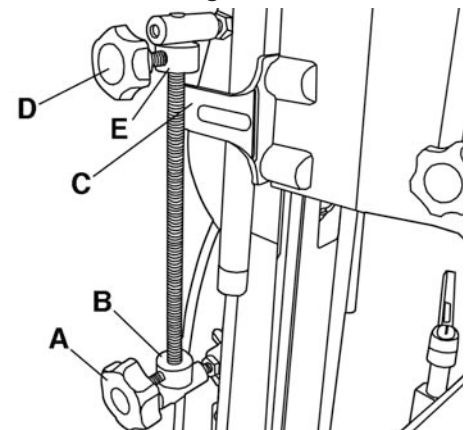

Figure 5
If you desire to set the cutting depth to a specific measurement or often to prevent drilling into the work table, a depth stop bushing (B) Fig.5 can be positioned and locked in place with lock knob (A). To set the chisel cutting depth to a specific measurement, first make sure the chisel and bit you intend on using is installed correctly in the head (see chisel & bit installation instructions). Example, if you wish to set the depth stop at 1" above the table surface, using the downfeed handle, lower the head until the tip of the bit is 1" above the table surface. Once this is done, loosen lock knob (A) and reposition the depth stop bushing (B) up against the stop plate (C) and retighten lock knob.
During repetitive operations, you may desire to limit the amount of upwards travel of the head making the downfeed distance shorter. Loosening the lock knob (D) Fig.5 and reposition the height stop bushing (E) downwards against the stop plate (C).